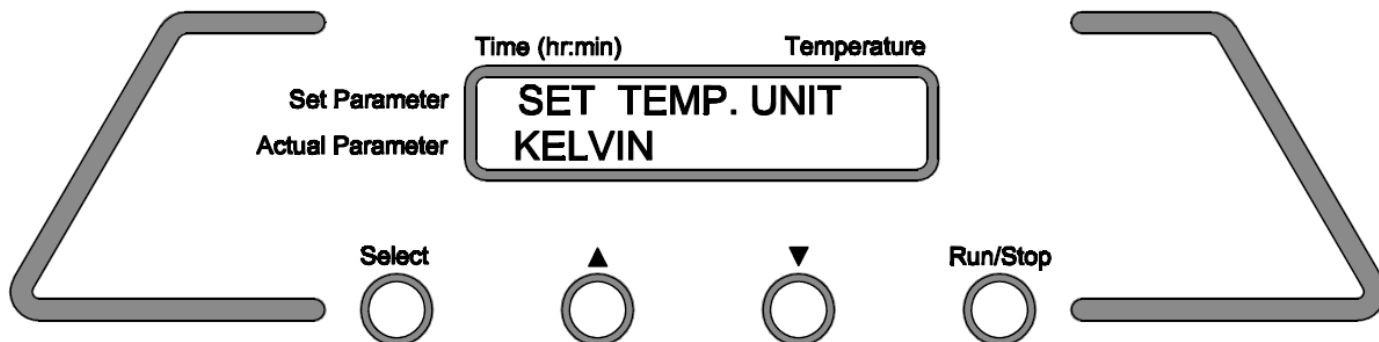

Fig. 4 Set Temperature Units
- 4.16 Keep pressing **Run/Stop** key (Fig.1/⑦) with power **ON**, the unit is switched to **SET TEMP. UNIT** mode (Fig. 4) where degree CENTIGRADE is default temperature unit, which displays the following readouts: